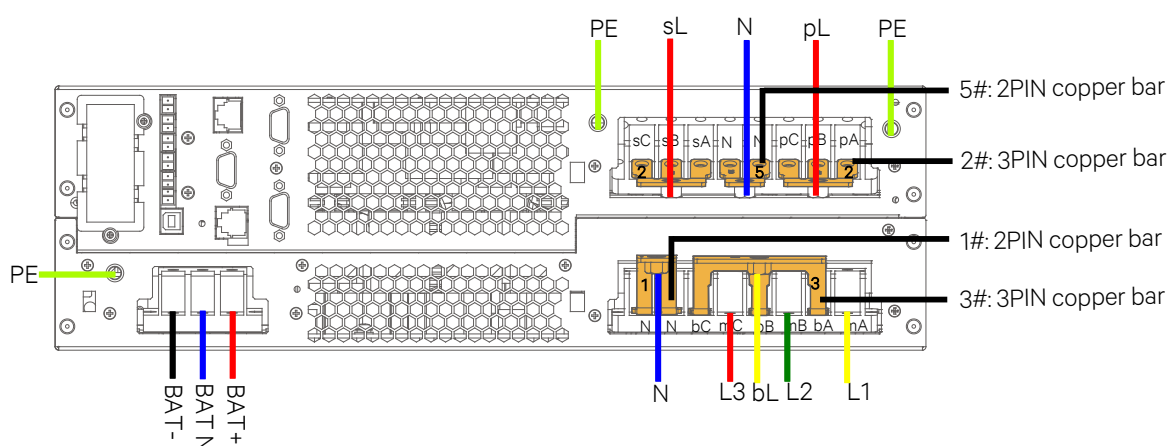

Figure 2-26 Wiring diagram (3-in 1-out, split-bypass configuration)
3. Connect the bypass input live wire (bL) to the shorting copper bar 3 (bA, bB, bC), connect the bypass input N line to the shorting copper bar 1 (N), and connect the mains input live wires (L1, L2, L3) to the input terminals (mA, mB, mC), next connect the mains input N line to shorting copper bar 1, then connect the input PE line to the PE terminal.
4. Connect the standard output live wire (sL) to the shorting copper bar 2 (sA, sB and sC). Connect the programmable output live wire (pL) to the shorting copper bar 2 (pA, pB and pC). Connect the output N line and output PE line respectively to the output terminals N and PE. As shown in Figure 2-26.
5. As shown in Figure 2-26, lead the battery positive cable, battery N cable and battery negative cable through the cable hole of the junction box, then respectively connect them to BAT+, BAT N, BAT- and PE, then fasten the fixing screws.